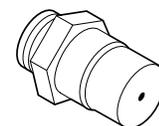

Figure 70
Step 7. Remove the orifice from the manifold and replace it with the one provided with the kit. See the following table for orifice sizes for natural and propane models. **Figure 70** illustrates the orifice.